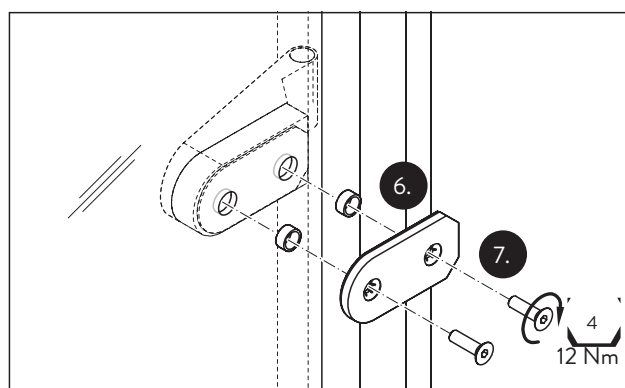

Abb. 23 Mounting the counter-plate
6. Insert the glass protection rings into the glass door panel on the side opposite the hinges (Fig. 23).
7. Mount the counter-plates onto the glass door panel on the side opposite the hinges using the counter-sunk screws. Tightening should be 12 Nm (Fig. 23).